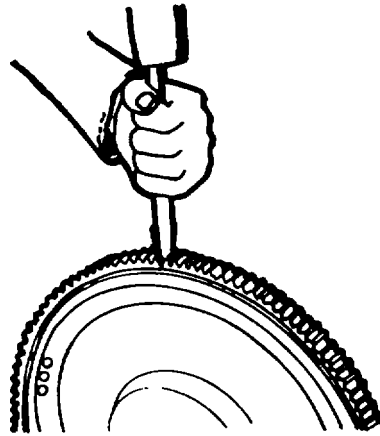

Figure 5-50. Removing Starter Gear Ring
1. Cut through the starter gear ring with a hard chisel and remove (figure 5-50).